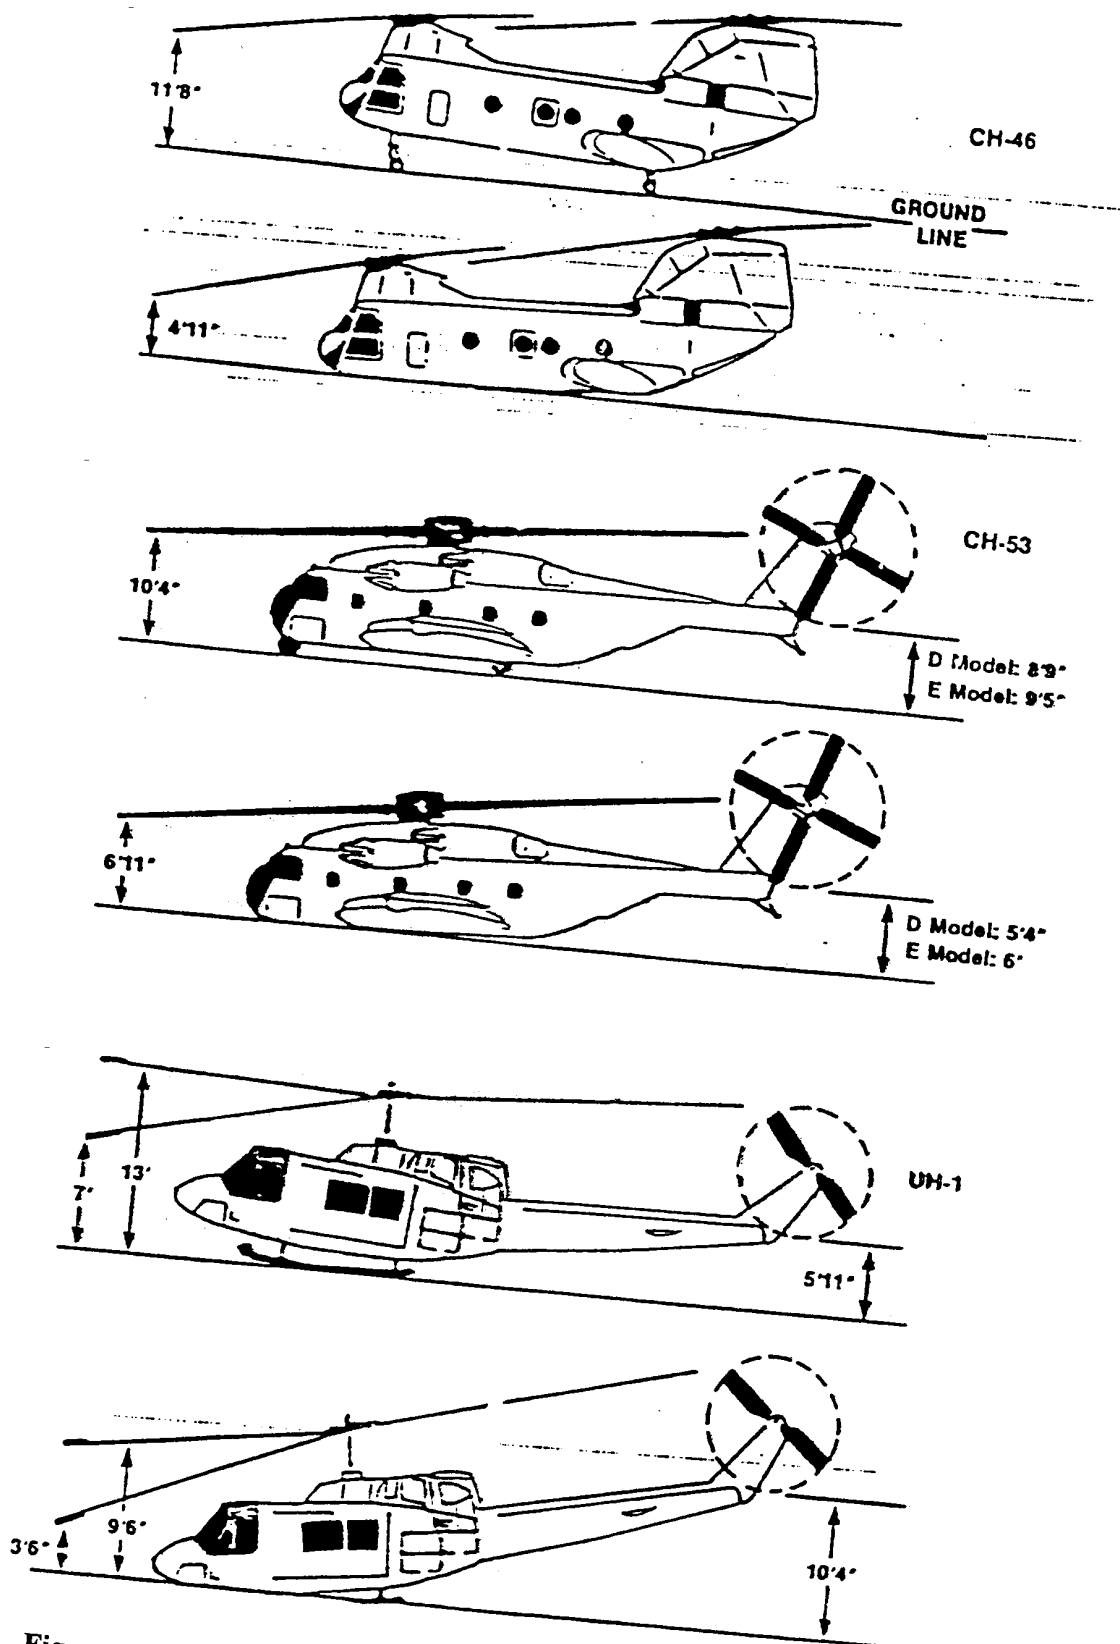

Figure 10-6. Marine Helicopter Rotor Blade Clearances
- e. **Rotor Clearance.** All Marines must realize that helicopters settle into the snow when operating in snow covered LZs. This lowers the distance between the snow surface and the helicopter blades. Using the universal method of helicopter loading (ahkio huddle) eliminates this problem. **Do not approach helicopters from outside the rotor arc. When unloading, do not leave the ahkio huddle before the helicopter debarks the LZ.** (See fig. 10-6, 10-7)